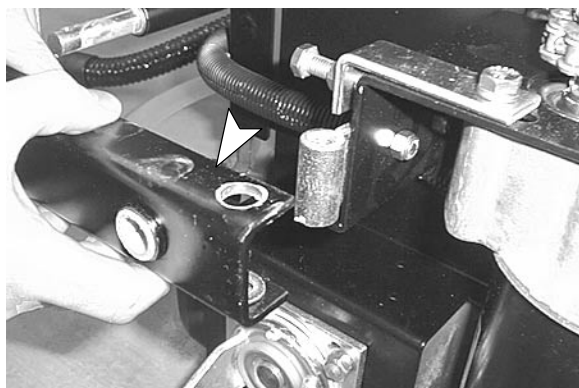

Fig. 4
3. Remove the squeegee pivot bracket, 3/4" wrench required (Figure 4).